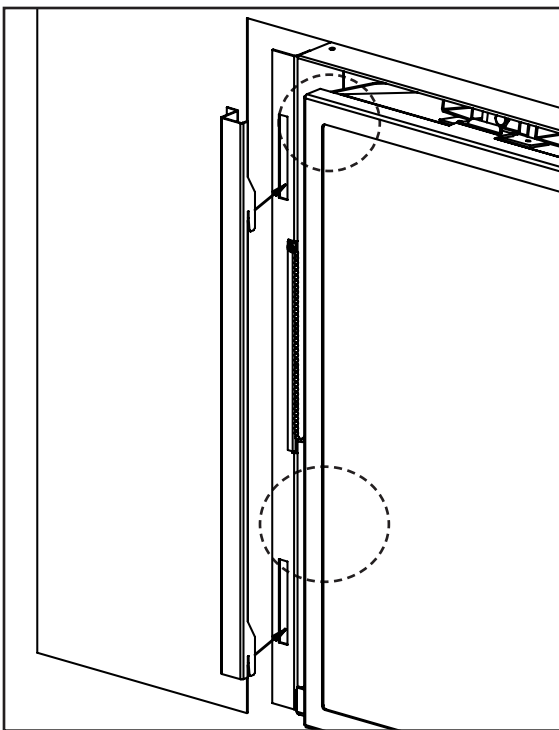

Figure 43: Panel Slot and Hook Locations
2. Install the Trimmable Panel by securing the four hooks onto the corresponding slots that are on the front of the E44I unit (See Figures 43 and 44)